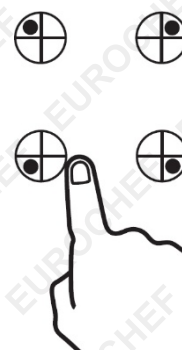
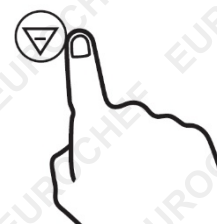

fig.2
fig.3
1. Press the cooking zone select button (fig. 2) for the zone you want to use.
2. Select the heat level required (1-9) by using the up and down buttons (fig. 3). By holding down either of these buttons, the value on the heat level display will adjust up or down.
1. Select the cooking zone (fig. 2) and heat level (fig. 3).